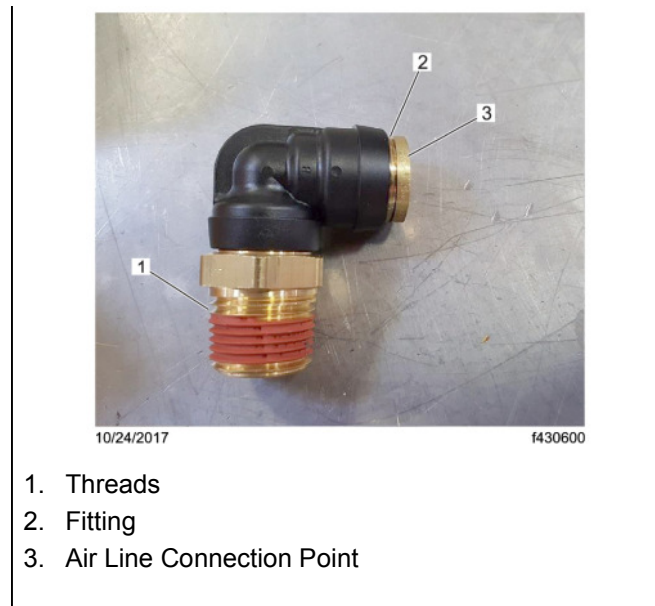

Fig. 1, Air Line Fitting
3. For each transporter touch point, spray the connection with a soapy water solution and observe the result. Refer to Fig. 1 for the location of possible leaks. If bubbles form, it indicates an air leak.